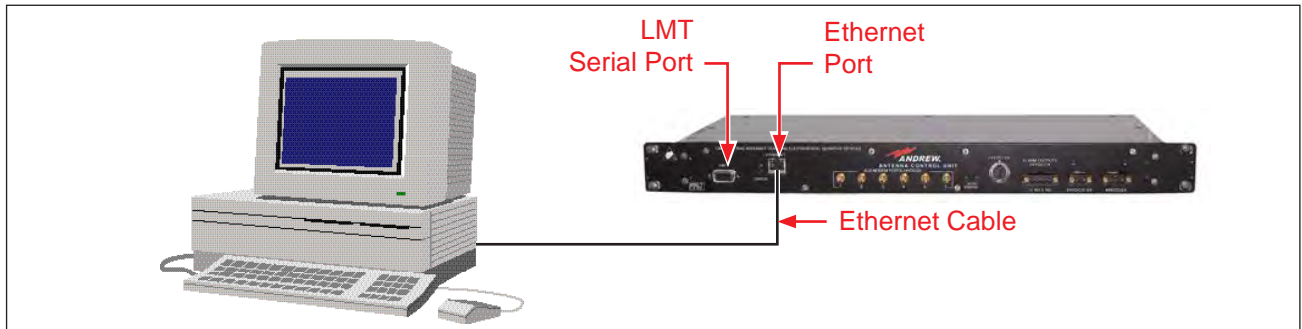

Figure 6-1. Local PC Connected To Controller's Ethernet Port Using An Ethernet Cable.
1. Connect the controller to the local computer using the crossover Ethernet cable provided and ensure controller is powered up (Figure 6-1). Power cycle controller if it was previously on a network.